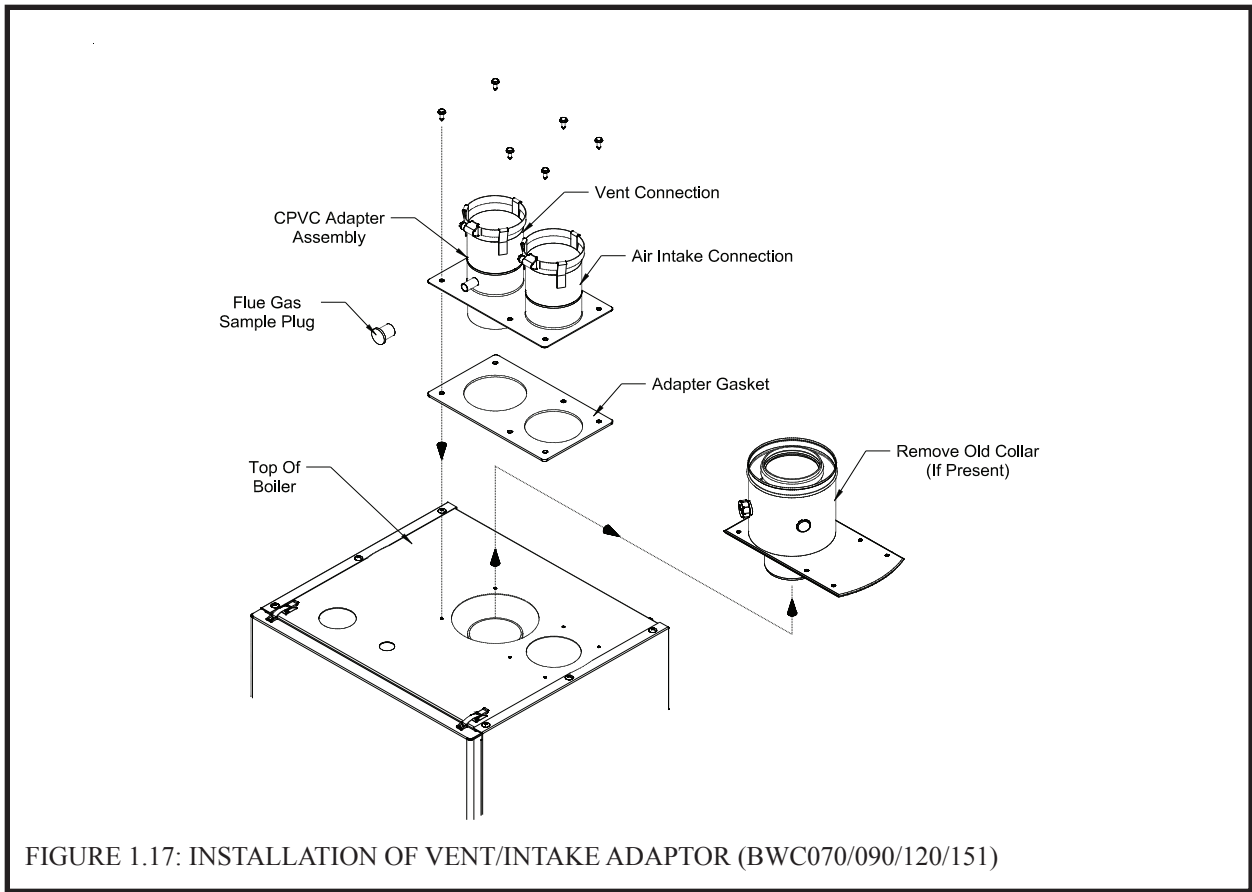

FIGURE 1.17: INSTALLATION OF VENT/INTAKE ADAPTOR (BWC070/090/120/151)
- Never leave the boiler in operation without the silicone gas sample cap in place (Figure 1.17, 1.18)
BWC070, 090, 120, 151 - If the CPVC/PVC vent/intake adaptor is not factory installed, install the vent/intake adaptor as shown in Figure 1.17.
- e. Secure the collar flange to the top of the boiler with the (6) #10 x 1/2" sheet metal screws supplied with the vent kit or those removed in Step (a).
- f. Verify that the silicone gas sample cap is in place (Figure 1.17).